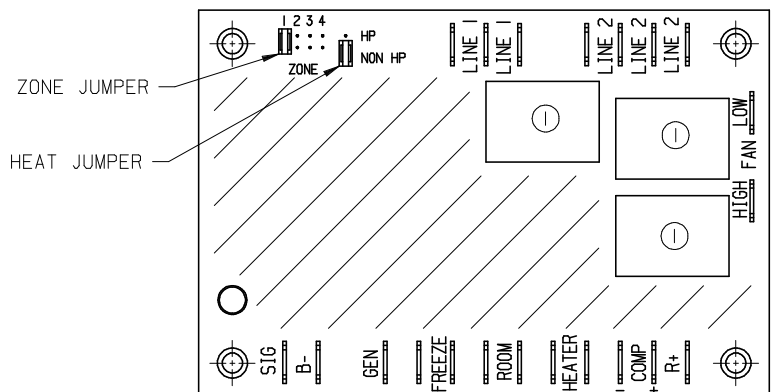

FIGURE 2
2. Set the “zone” jumper to the proper zone position for the particular position the air conditioner or heat pump will be in the coach (**Refer to Figure 2 – Zone 1 is shown**). Zones should be numbered from the front to the back of the coach with Zone 1 in front.
3. Set the “HP”/“NON HP” jumper to “HP” if the unit is a heat pump or to “NON HP” if the unit is not a heat pump (**Refer to Figure 2 – Non HP is shown**).
Insert the evaporator freeze sensor between evaporator fins near the bottom center of the evaporator and between the bottom two tubes (See Figure 2). Insert straight in until contacting the staggered tube directly in back of the insertion point. When contact has been made, elevate the exposed end of the sensor approximately 45 degrees, then continue insertion at a 45 degree angle until the sensor is completely embedded into the evaporator.